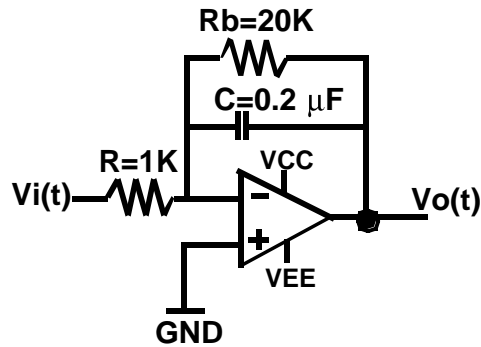

Figure 4. Integrator with shunt resistor.
For the circuit in Figure 4 with power supplies $V_{CC} = 12\text{ V}$, $V_{EE} = -12\text{ V}$, and assuming the opamp is ideal, answer the following questions:
1. Build the circuit in Figure 4 with power supplies ± 12 V. Apply a sine wave input signal with amplitude 300 mV and frequency 300 Hz. Display the input signal on channel 1 of the oscilloscope.
5. Repeat item 4 above using a triangular input signal with same amplitude and frequency. Turn this hardcopy in as part of your lab report.
6. Now change the input back to a sine wave as in item 1. Remove the resistor R_b . What happens to the output signal? Explain the phenomenon you observe on the oscilloscope. Re-insert the resistor R_b and verify that the circuit functions as designed.